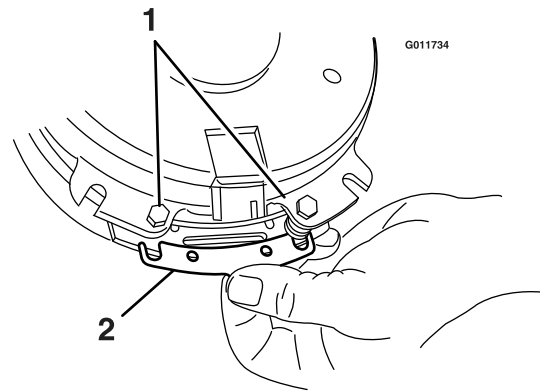

Figure 38
- A. Loosen both brake mounting bolts one-half to one full turn (see Figure 38).